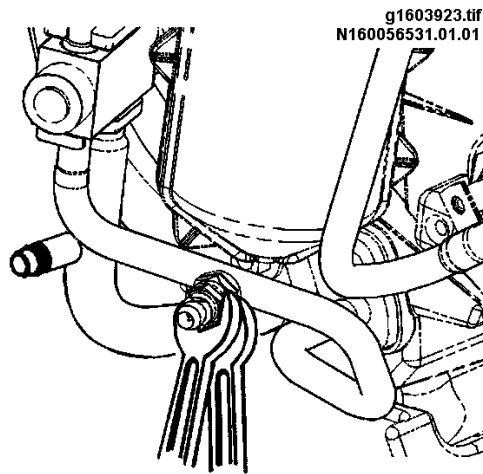

Figure 23 Use a Back-Up Wrench When Loosening or Tightening Fittings
- H. Whenever possible use a backup wrench when loosening or tightening fittings (Figure 23).